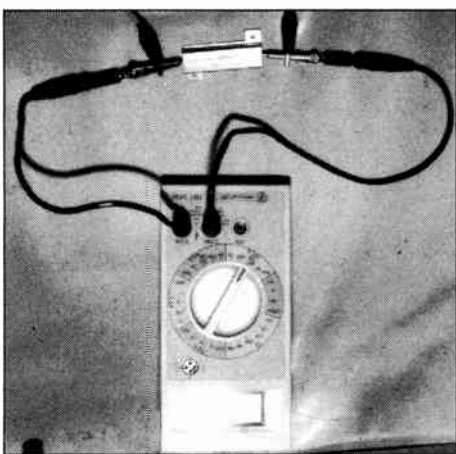

Fig. 8. Typical analogue multimeter.
Fig. 8. Front-panel designed for the milliohmmeter. For technical reasons, the meter scale is reproduced in black here, although it is really white. The scale can be cut out of the self-adhesive foil, to replace the one that comes with the moving-coil meter.
The first kind includes most low-priced multimeters, a typical example of which is shown in Fig. 8. One of the quality criteria of these instruments is their characteristic resistance, which is expressed in ohms per volt. The internal resistance,  $R_{in}$ , is calculated by dividing the characteristic resistance ( $\Omega$ ) by the full-scale deflection (V) of the relevant